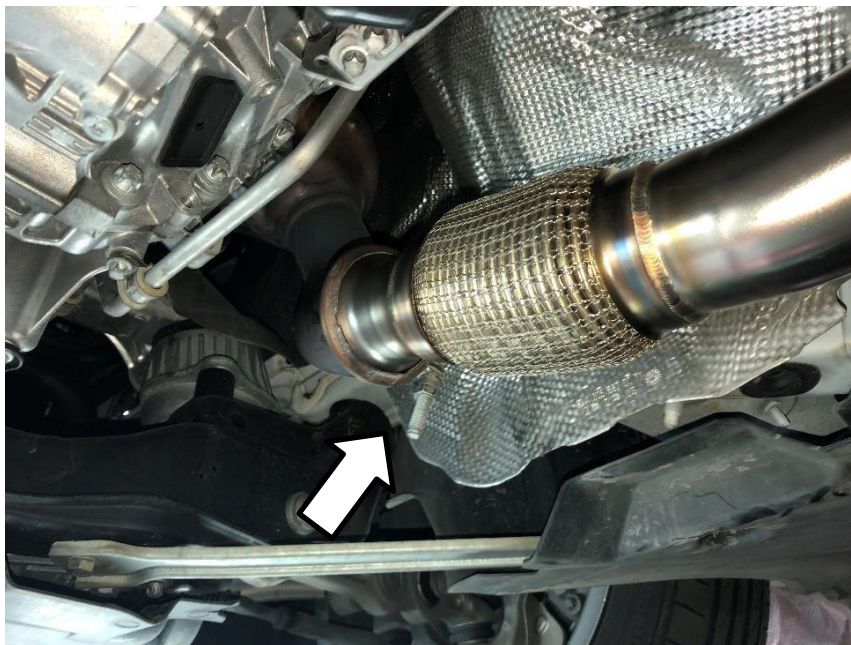
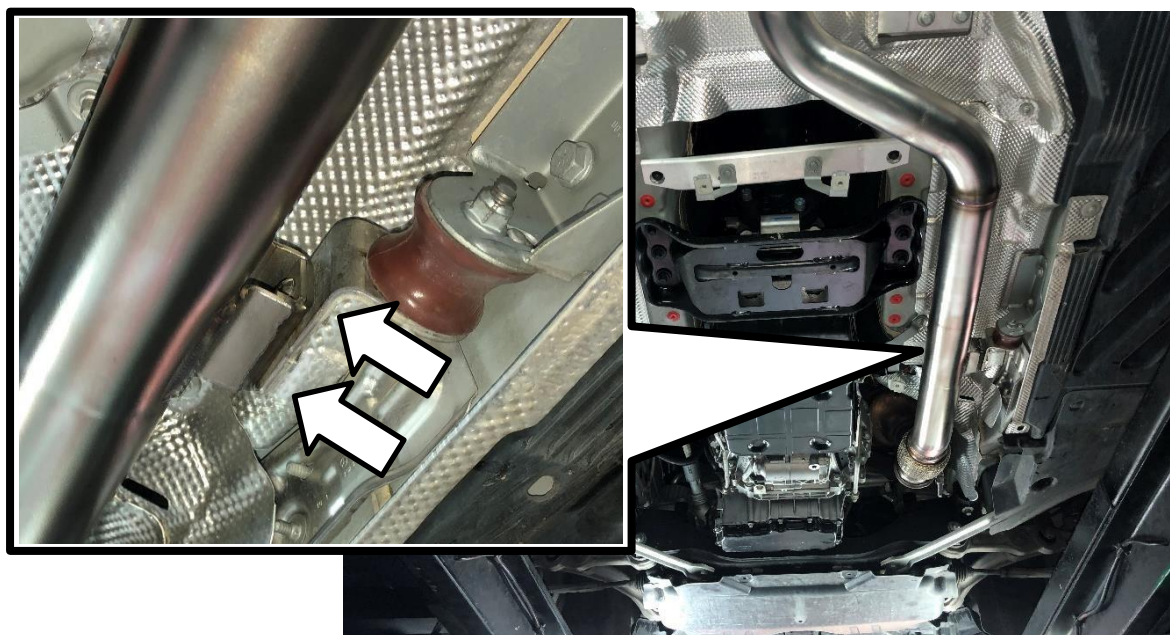

Fig. 12
Fig. 13
3. Insert the front pipe into the catalyst (Fig.12) and lock the clamp without screw (fix the front pipe) then lock the bush screws. (Fig.13)